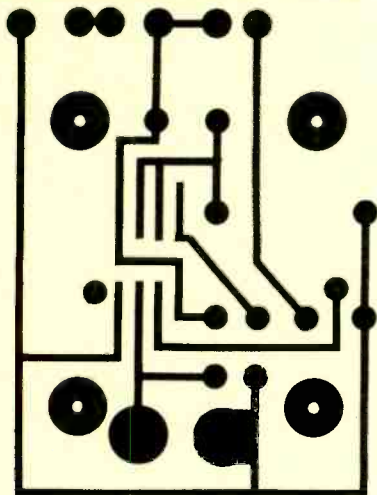
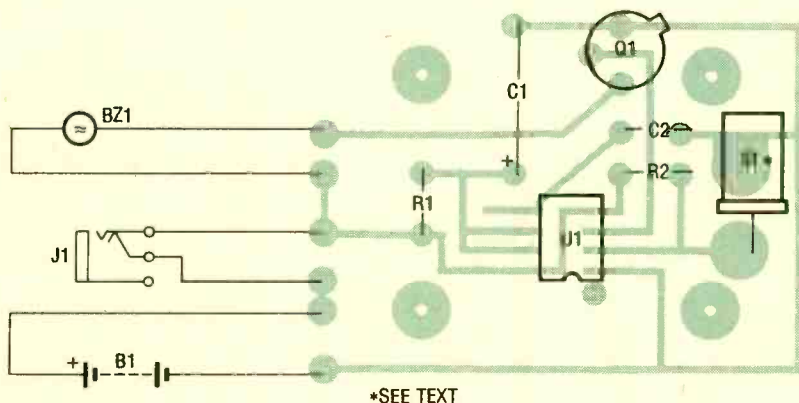

Fig. 2. This foil pattern will make your work neater. Use it foil-side up.
Fig. 3. Place the parts on your printed circuit board using this as a guide. Be sure that all polarized components are oriented properly.
**Building the Alarm.** The circuit can be hard wired or built on a small PC board. A pattern for the PC board is shown in Fig. 2. It should be mounted copper-side up because the components are to be mounted on that side, just as though they were surface-mount units. The parts placement diagram is shown in Fig 3.
**From the Beginning.** Consider Fig. 1. Assume that switch S1 is in position A so the circuit is open, as shown, and there is initially no charge stored in capacitor C (i.e.  $V_C = 0$ ). If switch S1 is moved to position B, voltage V is applied to the RC network. The capacitor begins to charge through resistor R with current from the battery, and  $V_C$  begins to rise towards V (see curve  $V_{CB}$  in Fig. 2). Electronics textbooks tell you that the instantaneous capacitor voltage is found from:
Fig. 2. A capacitor initially charges and discharges quickly, but the change in its voltage decreases as time goes on. A capacitor is said to "fully" charge or discharge after 5 time constants, although that is not really the case.